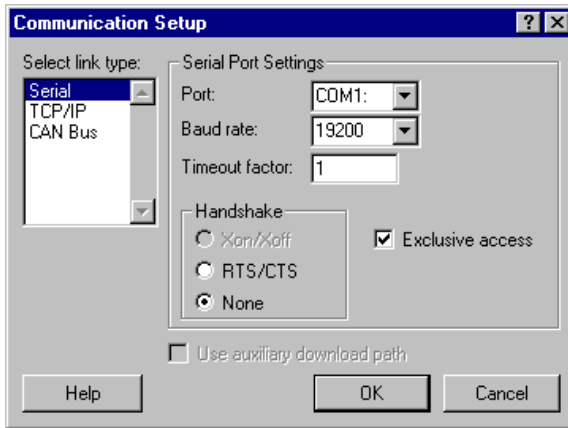

Figure 1-6: Setting up CrossView Pro Communications
The Communication Setup dialog box appears as shown in figure 1-6.
- When you click on the **Communication setup...** button (if available), the Communication Setup dialog box appears as shown in figure 1-6. With the **Target Settings...** button you can open the Target Settings dialog. Please check the information in these dialogs before downloading an application.